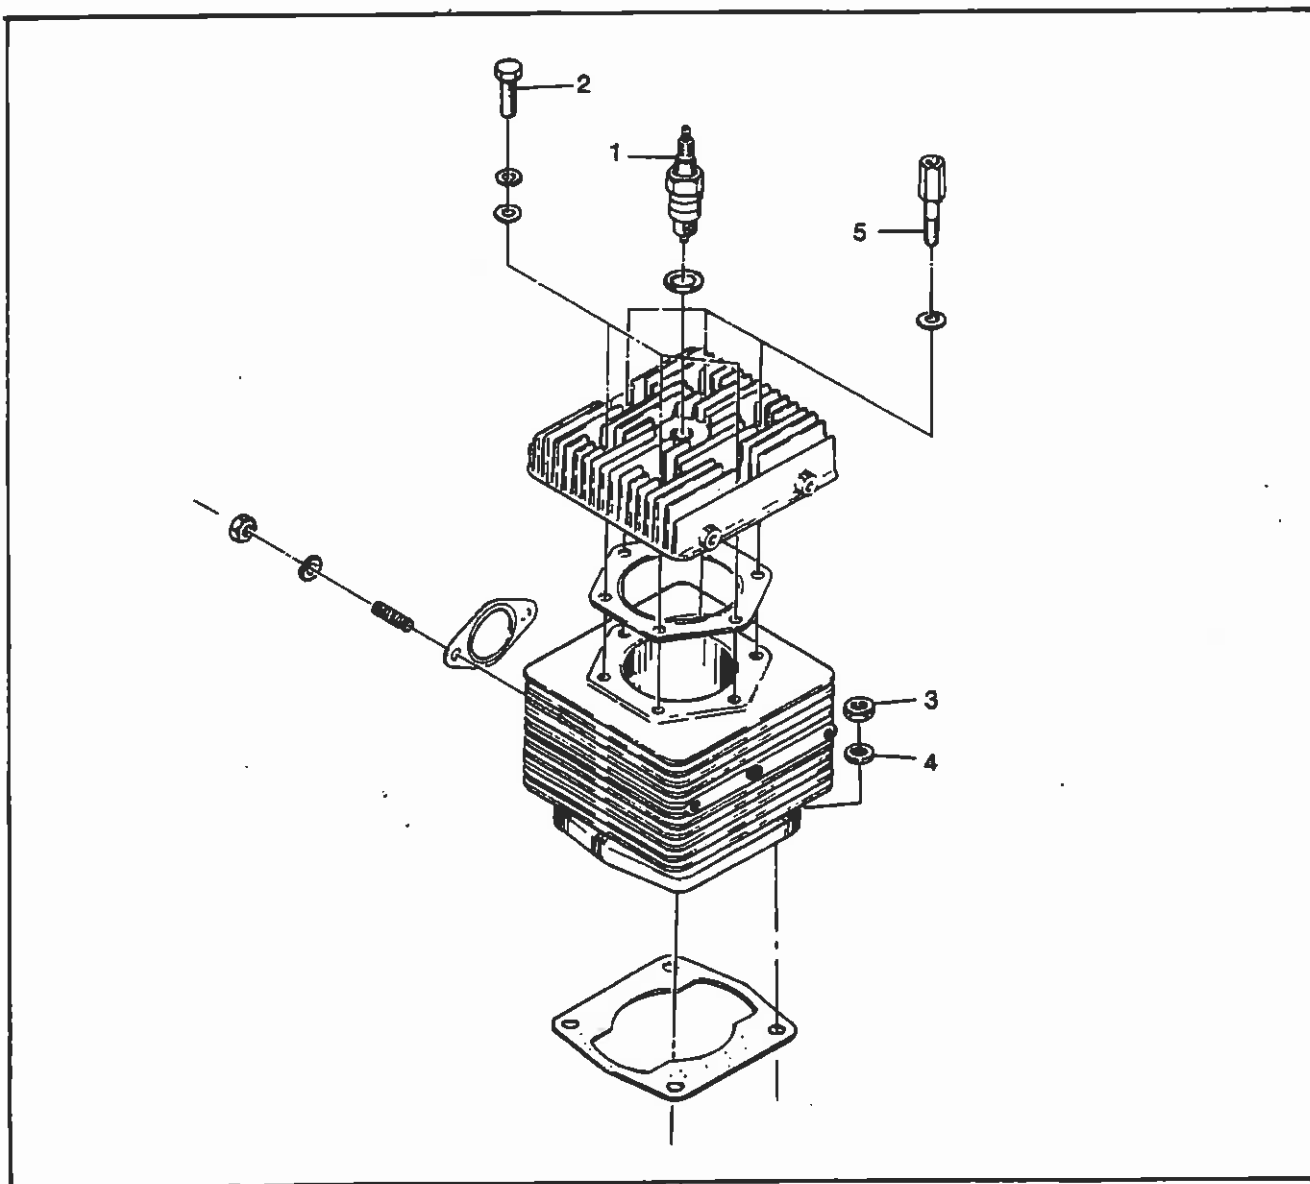

FIG. H-6 CYLINDER ASSEMBLY
NOTE: When installing head bolts, assure that the three tall head bolts (5) match the holes in the motor mount. (See Fig. H-6)